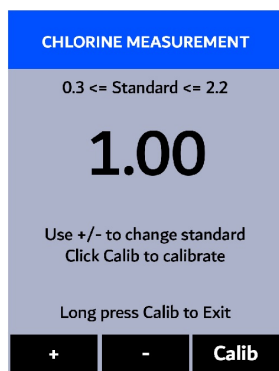

Figure 36.
10. Use + ( **<** ) and - ( **>** ) to adjust the chlorine concentration to the value of 1.00 ppm (Figure 36).